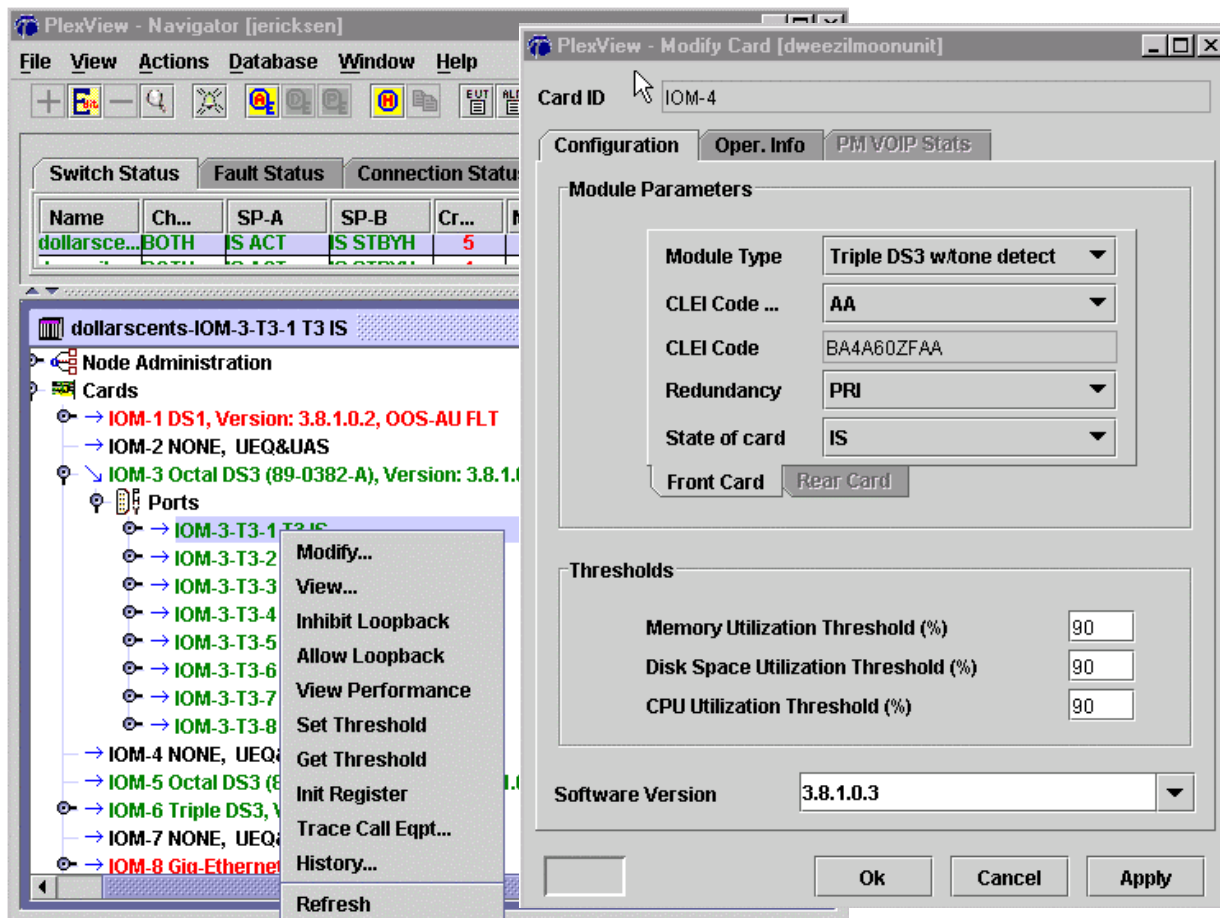

Figure 2. Retrieving Module Configuration
7. Double-click the switch to select it for the main panel and then double-click *Cards*. Right-click the desired IOM and then select *View* and then *Configuration*. Note the CLEI and software version. Refer to Figure 2.